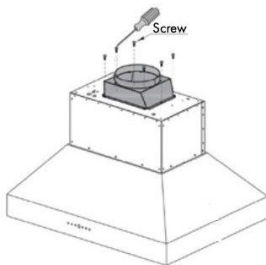

Figure 1.
2. Attach the air outlet adapter and ducting over the hood with the provided screws (ϕ 6" for 30", ϕ 10" for 36", 48" and 60"). *Figure 1*